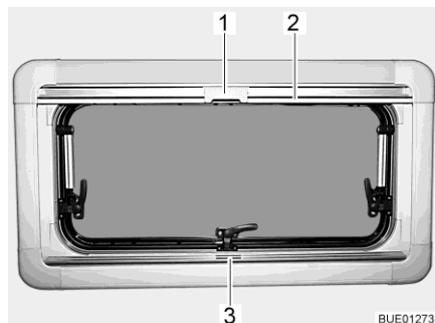

Fig. 106 Hinged window
- Grip the Roman shade in the centre of the holding bar (Fig. 106,3), pull it from the bottom to the top and then release it at the desired height. The Roman shade will stay at this height.
- Pull the insect screen down using the holding bar (Fig. 106,2), until it touches the holding bar of the Roman shade (Fig. 106,3).
- Clip the catch (Fig. 106,1) on the insect screen into the handle of the Roman shade.
- Push the catch (Fig. 106,1) on the insect screen inwards.
- Move the insect screen back slowly on the holding bar (Fig. 106,2).